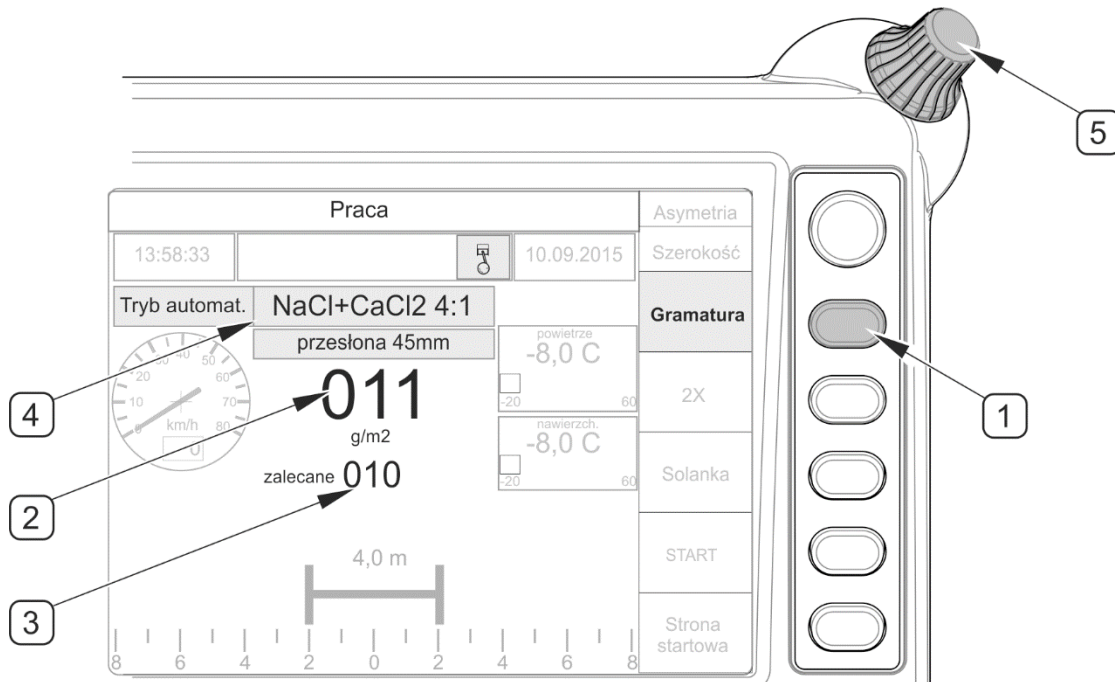

FIGURE 4.29 Correction in automatic mode (option)
On control panel working page ("Operation") (FIGURE 4.29), the operator can correct the dose for a defined automatic mode after selecting "Spreading density" function by means of push-button (1). Correction is made by means of knob (5). Recommended density (3) for a defined mode T1, T2 or T3 is displayed below spreading density set by the operator (2) (FIGURE 4.29).